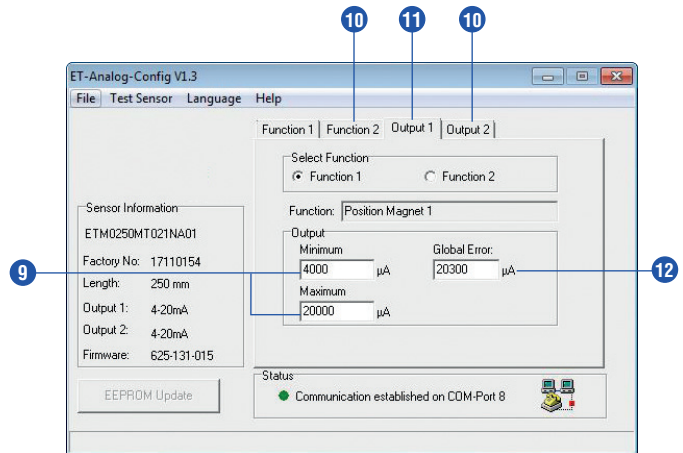

Fig. 35: Example of tab controls
- 9 The field **Output Minimum** indicates the current or voltage value which should be output at the startpoint of the selected function. The output value pertaining to the endpoint must be specified in field **Output Maximum** (Fig. 35).
- 10 On tabs **Function 2**, **Output 2**, the second analog output can be set (Fig. 35).
- 11 On tab **Output 1** the corresponding analog output signals can be allocated (Fig. 35).
- 12 Unless a position magnet is missing or if it is in the sensor's dead zone, i.e. out of measuring range, **Global Error** is output. The error value can be adjusted within **-0.7...20.3 mA** or **-0.4...10.4 VDC** (Fig. 35).